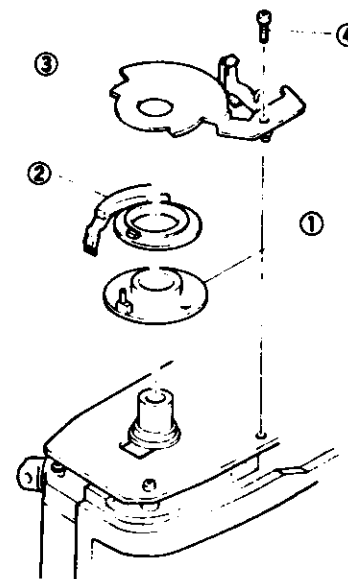

Fig. 3
5. ASA contact holder assy (see Fig. 3)